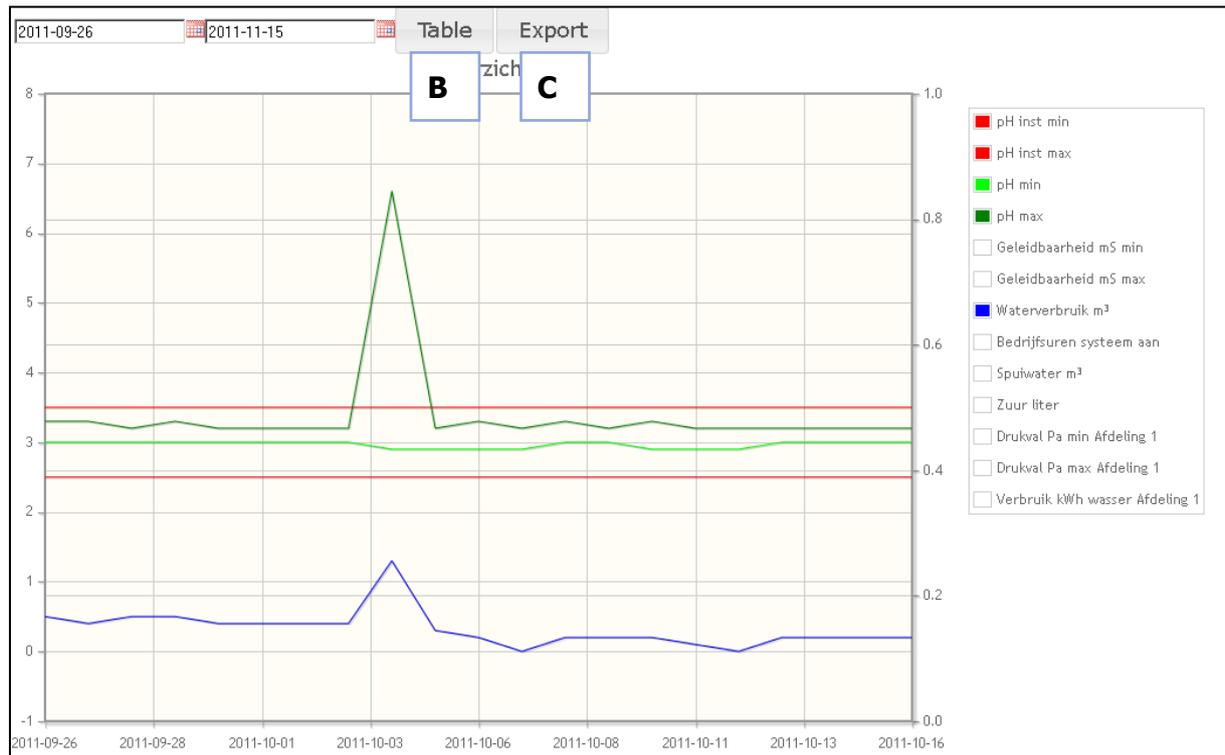

Figure 49: Example chart
- Click [Chart], above the table (B in Figure 47). A chart will appear regarding the set period (Figure 49).